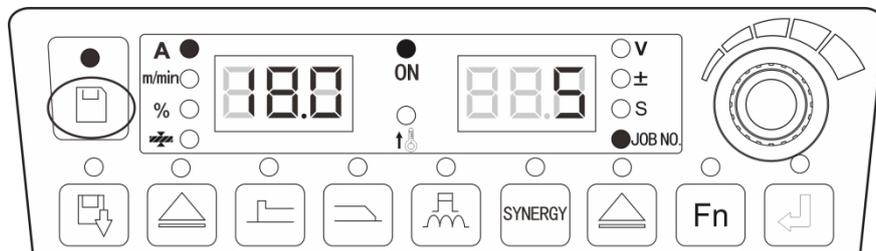

Fig. 3-12 Storage setting interface
2. Select the channel number (0~49) with the panel knob, and press the "**Enter**" key to confirm, as shown in Fig. 3-12.